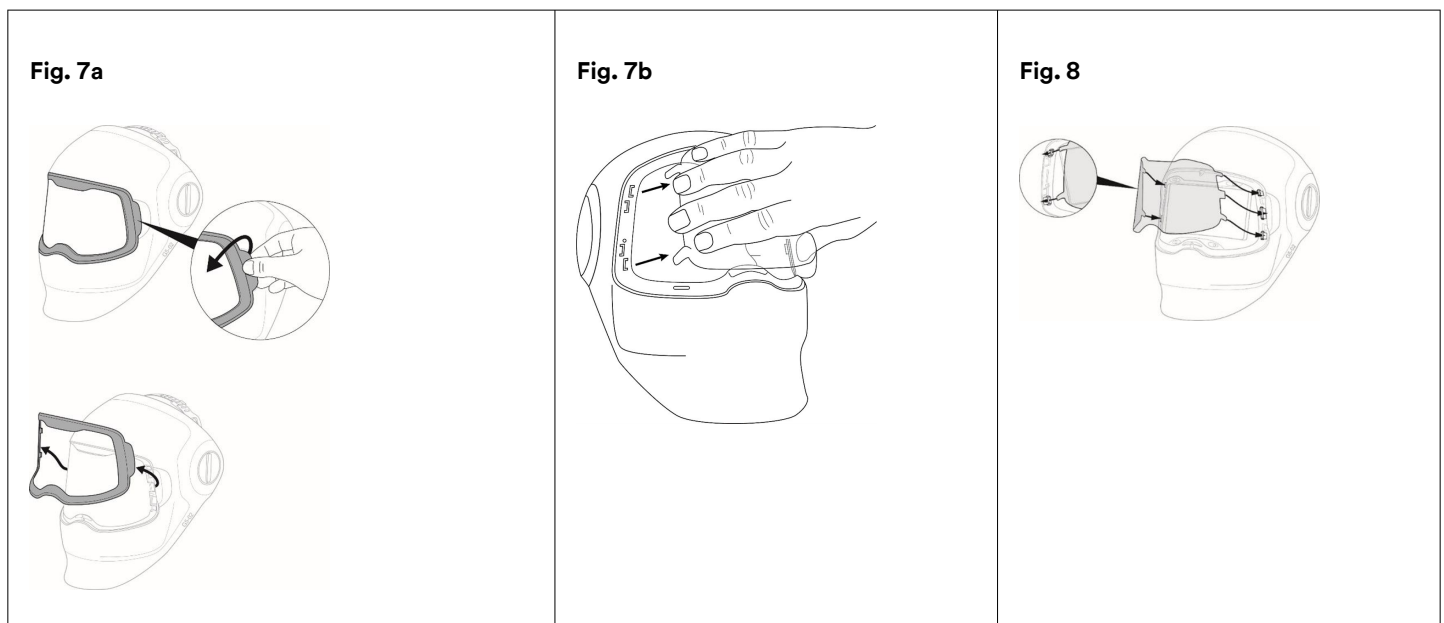

Fig. 9
- d. To reinstall the protection front cover, place it over the protection plate and snap it into place at all four corners using firm, downward and outward pressure from your thumb or index finger (Fig. 9).